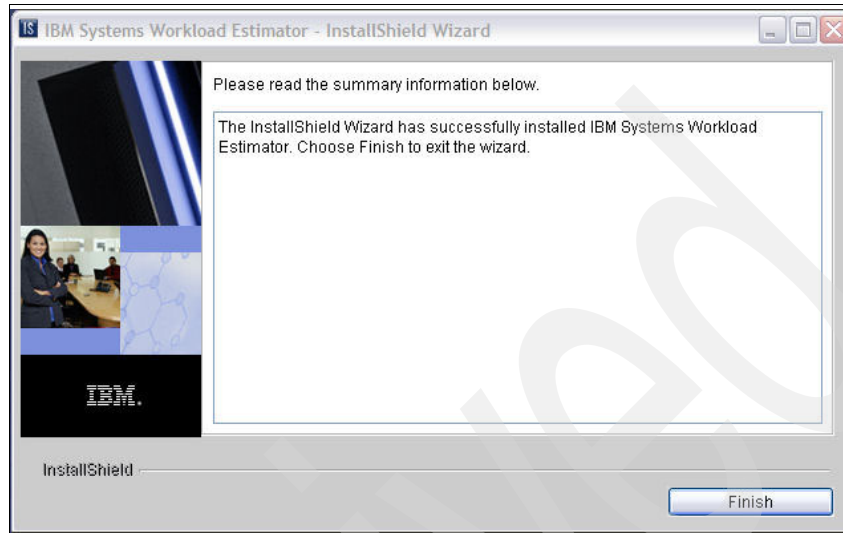

Figure B-17 IBM Workload Estimator install complete
13. This process completes and the finalization screen displays (Figure B-17). Click **Finish** to complete the install.